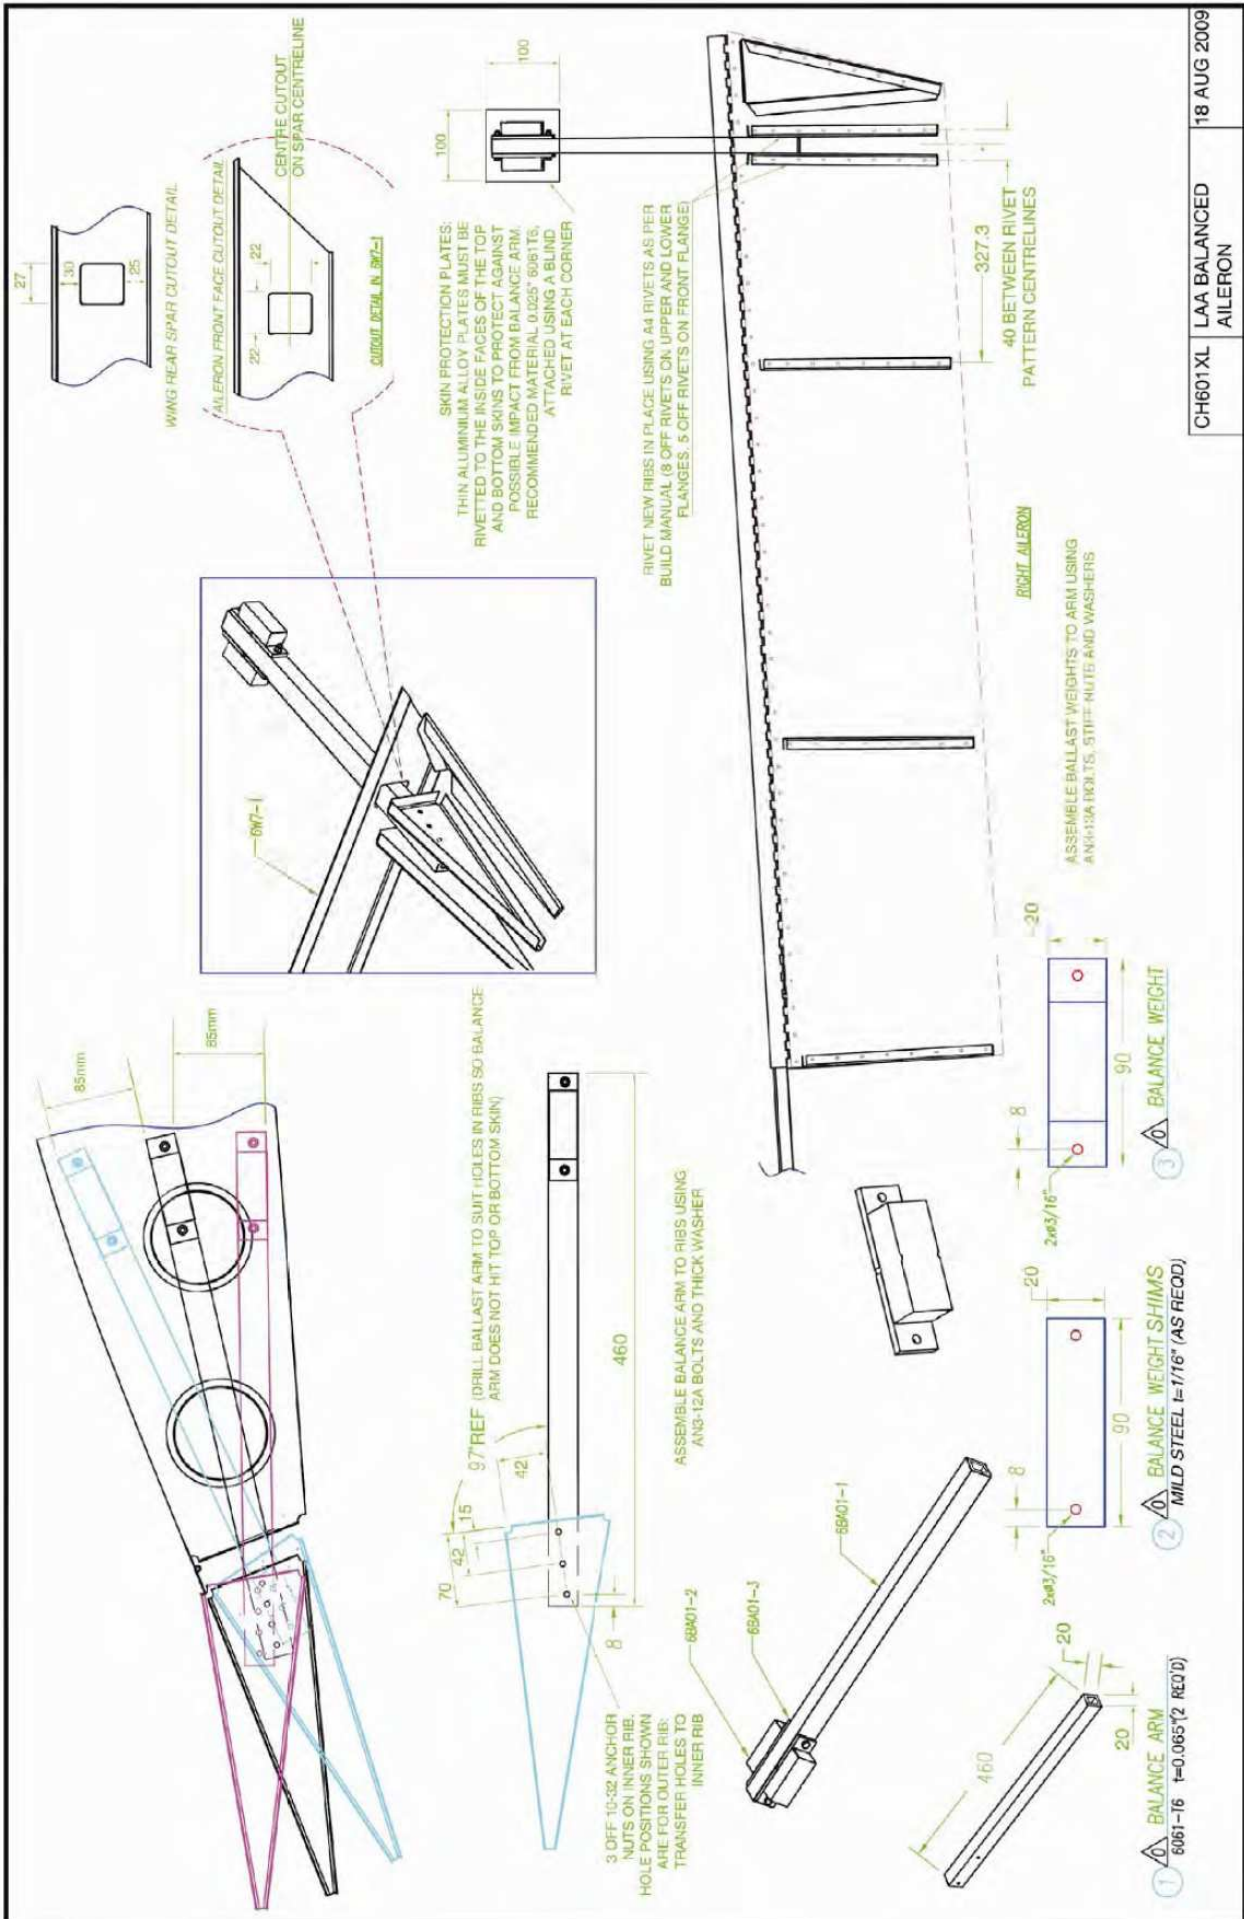

FIGURE 4
References:	<ul style="list-style-type: none"> UK LAA Drawings: UK Balanced Aileron (Figure 4) Pages 2-5 of S.L. # ZE-2009-06 LAA Document Number: LAA MOD/162B/004
5. The mass balance arm is supported by two new aileron ribs which must be fitted into the outer ends of the ailerons, see Figure 4. Using masking tape on the aileron and a fine felt tip pen, mark on the aileron upper and lower surfaces the centreline of the mass balance arm. Note that the mass balance arm is to be installed parallel to the other wing ribs, it is NOT perpendicular to the aileron leading edge. Continue this line around the leading edge of the aileron.